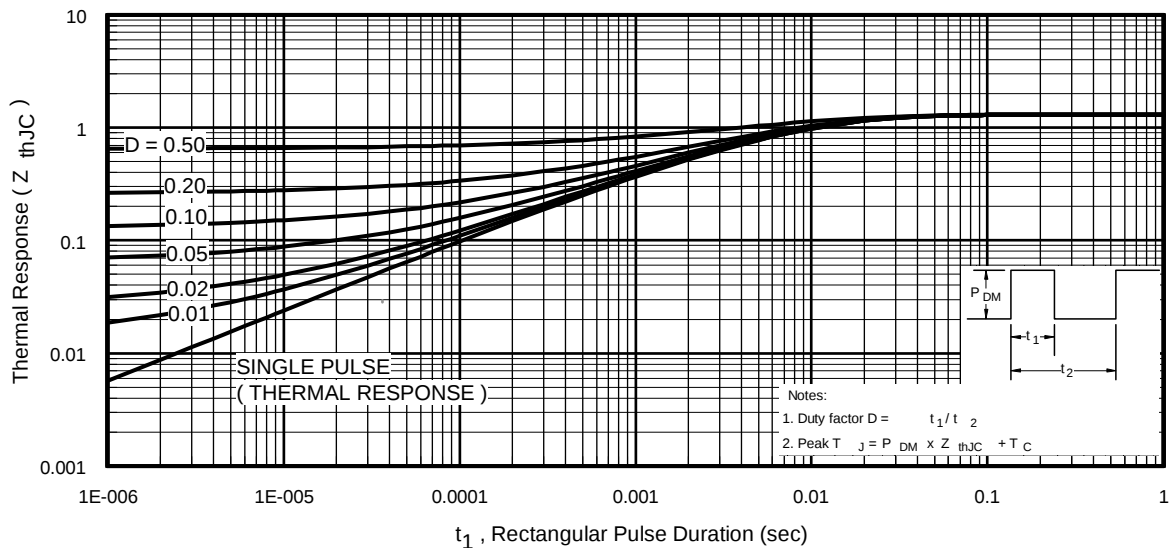
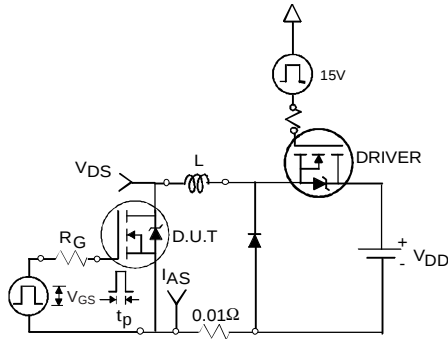

Fig 11. Maximum Effective Transient Thermal Impedance, Junction-to-Case
Fig 12a. Unclamped Inductive Test Circuit
3. Equation below based on circuit and waveforms shown in Figures 12a, 12b.
$Z_{thJC}(D, t_{av})$ = Transient thermal resistance, see figure 11)
- ① Repetitive rating; pulse width limited by max. junction temperature. (See fig. 11).
- ② Limited by T_{Jmax} , starting $T_J = 25^\circ\text{C}$, $L = 0.71\text{mH}$, $R_G = 25\Omega$, $I_{AS} = 23\text{A}$, $V_{GS} = 10\text{V}$. Part not recommended for use above this value.
- ③ $I_{SD} \leq 23\text{A}$, $di/dt \leq 400\text{A}/\mu\text{s}$, $V_{DD} \leq V_{(BR)DSS}$, $T_J \leq 175^\circ\text{C}$.
- ④ Pulse width $\leq 1.0\text{ms}$; duty cycle $\leq 2\%$.
- ⑤ C_{oss} eff. is a fixed capacitance that gives the same charging time as C_{oss} while V_{DS} is rising from 0 to $80\% V_{DSS}$.
- ⑥ Limited by T_{Jmax} , see Fig.12a, 12b, 15, 16 for typical repetitive avalanche performance.
- ⑦ This value determined from sample failure population. 100% tested to this value in production.
- ⑧ When mounted on 1" square PCB (FR-4 or G-10 Material). For recommended footprint and soldering techniques refer to application note #AN-994.